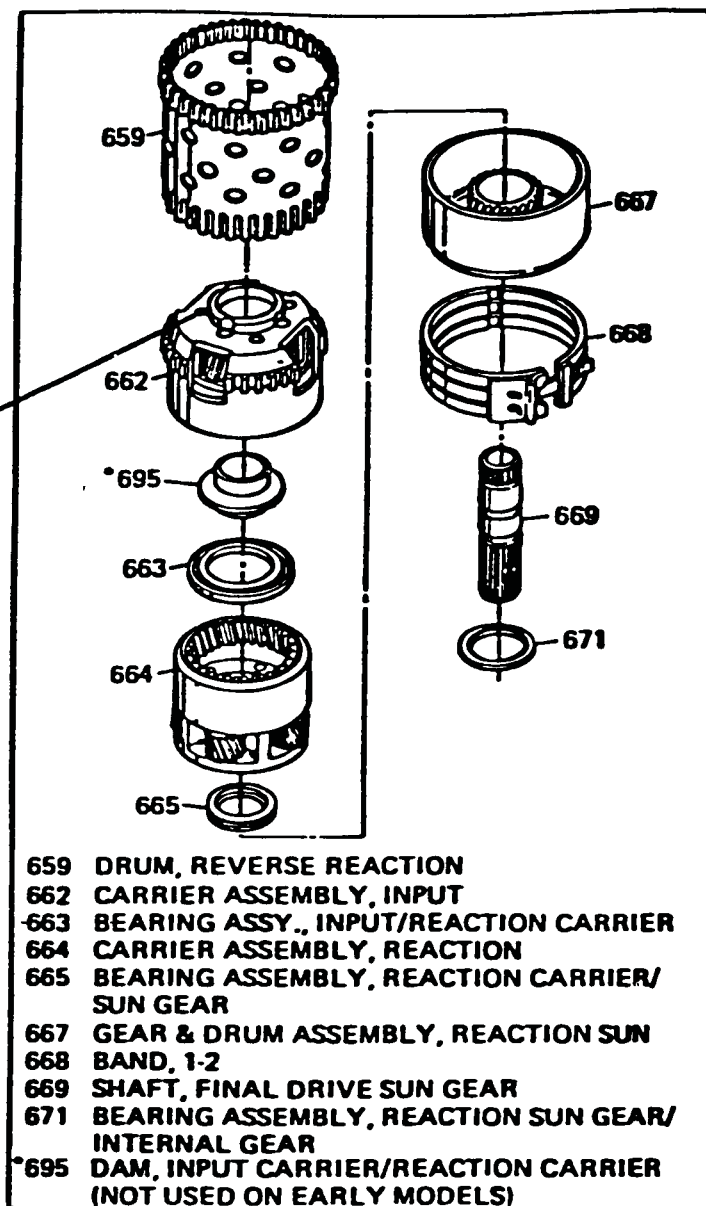

Figure 46
- 6) Input Carrier(622) - Shoulder machined down to shorter dimension (See Figure 46).
CAUTION: The input carrier must be replaced or modified as per specifications in Figure 46. If not replaced or modified, an interference will result and damage to the transaxle. The lip protruding on top of the input carrier must be machined to meet the dimension shown in Figure 46. Extra care must be used in the machining process, as the torrington bearing will not come out of the input carrier.